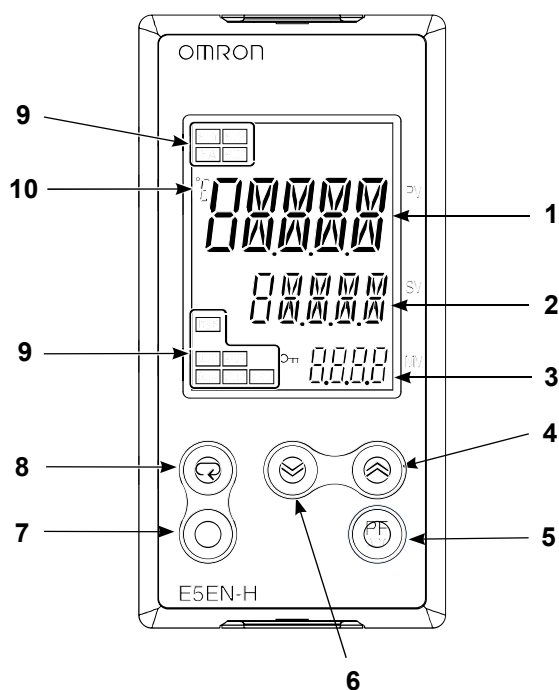

Figure 12 E5EN-H Temperature Controller Displays and Keys
7. See Figure 12. Press the *DOWN* key to lower the percentage value (amber display located next to MV label) to -100. This prevents the heater contactor from energizing while opening the chilled water solenoid valve and allowing chilled water to flow into the process water loop.
See Figure 12.
Use the process controller to set the material temperature setpoint and monitor the system operation. See Figure 12 and the following table for a description of the controller displays and keys.